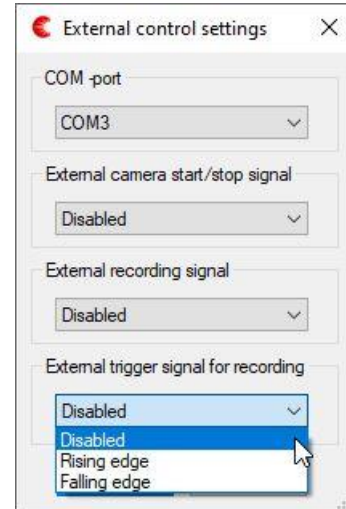

Fig. 7. Alternatives for external trigger.
- External trigger signal for recording (Fig. 7)